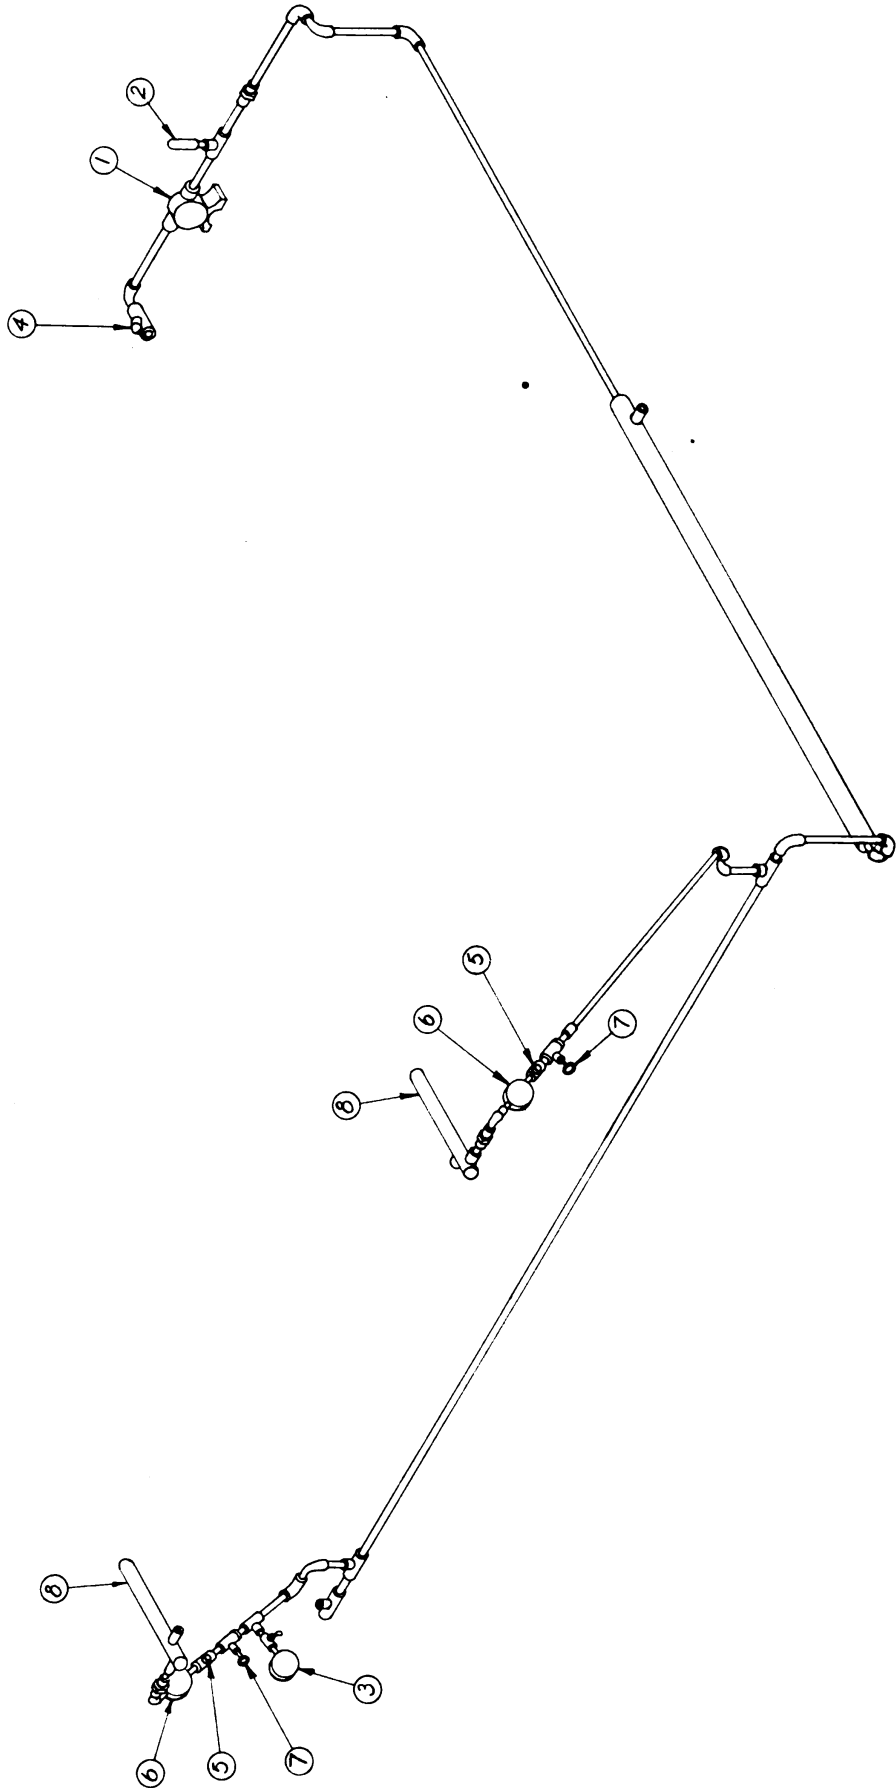

FIG. 14 - DRYER FUEL SYSTEM.
FUEL PUMP (1, Fig. 14)
RELIEF VALVE (2, Fig. 14)
PRESSURE GAUGE (3, Fig. 14)
FUEL STRAINERS (4 & 5, Fig. 14)
The burner strainers (5) Fig. 14, function much the same as the suction strainer. No provisions are made, however, for draining the sediment from the strainers. To clean the strainer, unscrew the cap from the strainer housings and slide out the screen.
MICRO-CONTROL VALVES (6, Fig. 14)
The micro-valves will not shut off completely the flow of oil to the burners. Ordinary globe valves (7) Fig. 14, in the fuel line ahead of the micro-valves, are used for this purpose. When shutting the dryer down, the micro-valves are first closed gradually as the flow of aggregate through the drum decreases. When most of the aggregate has been run through the drums, the globe valves are closed completely, after which the micro-valves for each burner are closed.
BURNERS (8, Fig. 14)